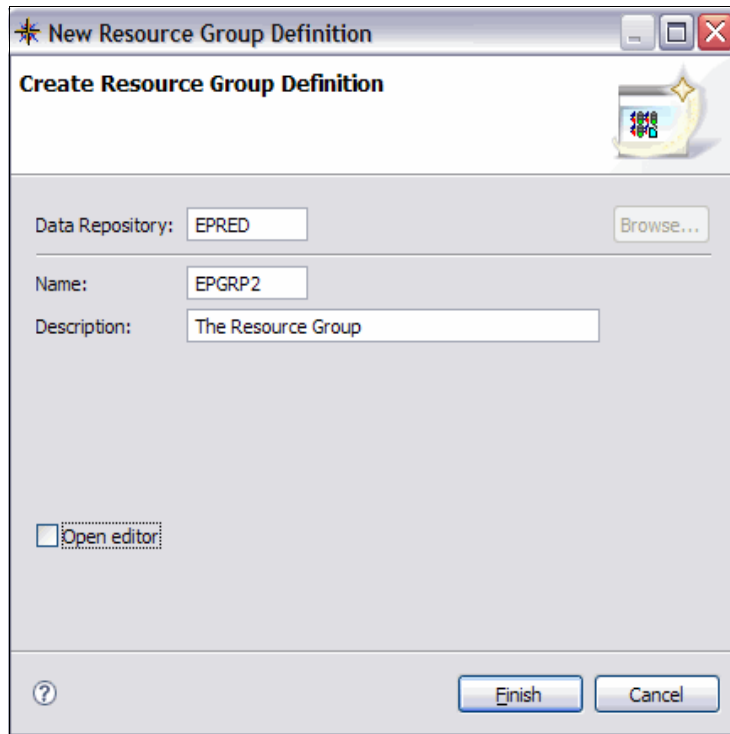

Figure 5-24 Create the Resource Group
- b. Click **New** and enter the following information (Figure 5-24). Click **Finish**: